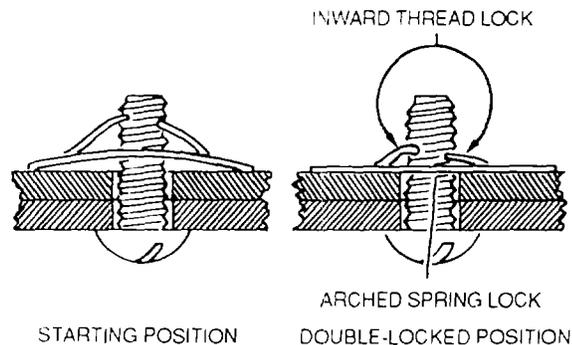

Figure 2-27. Sheet Spring Nut
g. Sheet Spring Nuts. Sheet spring nuts, NAS444, NAS445, NAS446, and NAS395, as shown in figure 2-27, are commonly called speed nuts. Use with standard and sheet metal self-tapping screws in various nonstructural locations Speed nuts in supporting line clamps, conduit clamps, electrical equipment, access doors, and other similar items. Speed nuts are made from spring steel and are arched prior to tightening The arched spring lock prevents the screw from working loose They are easily inserted, and finger pressure keeps them from turning. The use of the wrenches is unnecessary Use speed nuts only where originally used in fabrication of the aircraft.